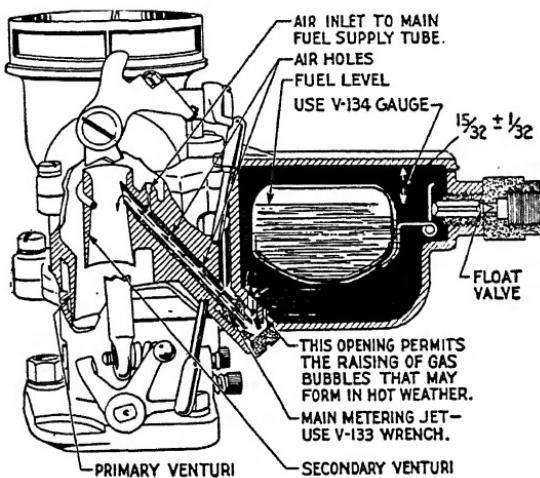

Fig. 121. Sectional View of Ford "V-8" Carburetor
While the idle discharge holes both supply fuel when the carburetor is choked, the main discharge nozzle, Fig. 121, supplies the bulk of the fuel in full choke position. When the carburetor is fully
*Main Fuel Supply.* Starting at a speed of approximately 25 miles per hour, the main fuel supply discharge nozzle supplies all the fuel on up to approximately 75 miles per hour, at which time the by-pass or power jet also cuts in. The fuel, as was the case with the idling fuel supply, passes through the main metering jet. From this jet the fuel travels upward on an angle to the main discharge nozzle in the secondary venturi, as shown in Fig. 121. A slightly smaller jet, "40-9533C" is available for operations in high altitude.
The venturi designated as the primary venturi, Fig. 121, increases the rate or speed of the air flow. The secondary venturi, opening as it does, above this restriction, and discharging below the point of greatest restriction in the primary venturi, takes full advantage of the unbalanced pressures, or the difference in pressure at the two ends of the secondary venturi, namely atmospheric pressure at the upper end, and the stepped-up vacuum at the lower end. In this way an even higher velocity for the air stream is obtained in the secondary venturi.
*Float Level.* As indicated in Fig. 121, the correct float level for these carburetors is  $1\frac{15}{32}$  inch from the lower side of the float-bowl cover gasket. Since this carburetor is of the plain tube type, the float level is of more importance than it was on the air vane operated type of carburetor. However, a tolerance, either plus or minus, of  $\frac{1}{32}$  inch is permissible. The correct float level is measured from the lower side of the float-bowl cover gasket and should be not more than  $\frac{1}{2}$  inch and not less than  $\frac{1}{16}$  inch.